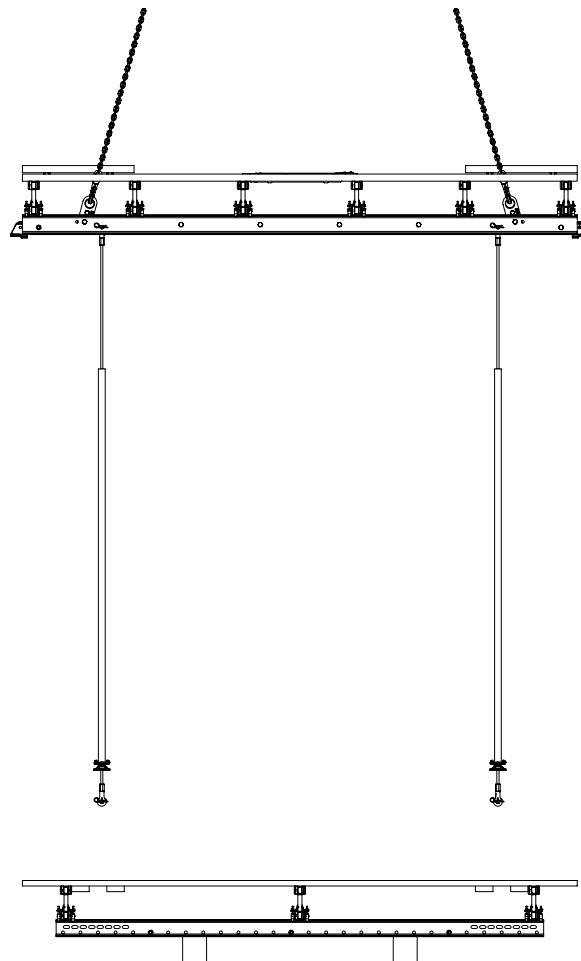

Fig. D1.03
2. Dismantle the finishing platform. (Fig. D1.03)